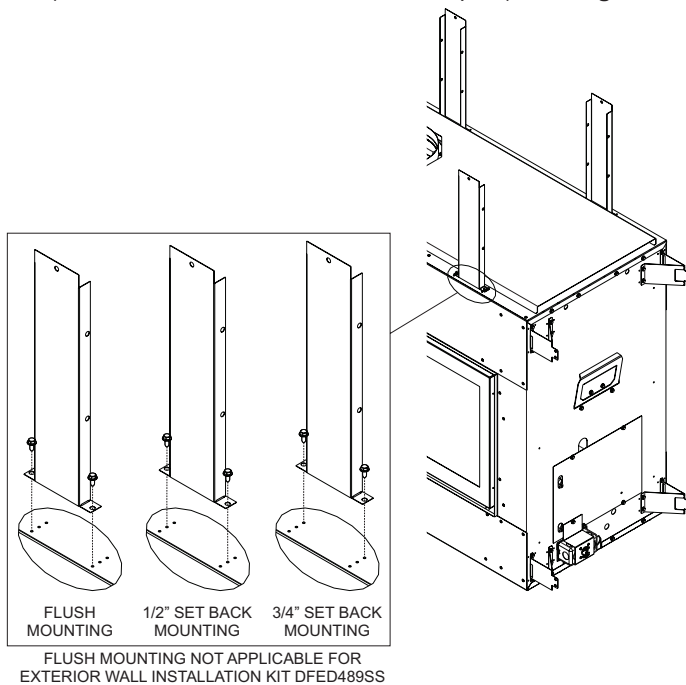

Figure 25
- Attach three top framing brackets to the top front edge of the fireplace. These brackets support the non-combustible board above the fireplace. Preset depth to suit facing material (flush, 1/2 inch, or 3/4 inch set back depths). **See Figure 25.**